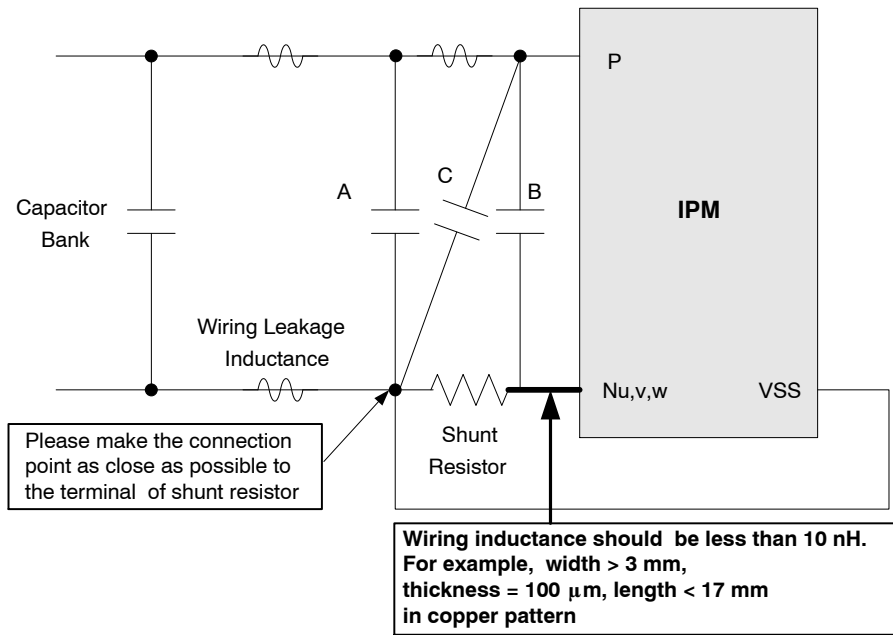

Figure 34. Recommended Snubber Capacitor and Wiring of Shunt Resistor
If the wiring length between the IPM and the shunt resistor is long, it will cause excessive surges that might damage the IPM. To decrease the pattern inductance, the wiring pattern length between IPM and snubber capacitor should be as short as possible. As shown in Figure 34, snubber capacitor should be installed in the right location to suppress surge voltage effectively. Generally, snubber capacitor of around $0.1 \mu\text{F} \sim 0.22 \mu\text{F}$ is recommended. There are three locations where the snubber capacitor can be installed (A), (B) or (C). If the snubber capacitor is installed in location (A) as shown in Figure 34, it cannot suppress the surge voltage effectively. The location (B) for surge suppression effect is greater than